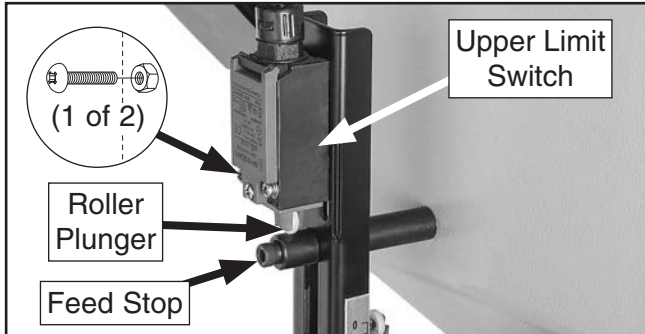

Figure 88. Upper limit switch and feed stop.
- Loosen Phillips head screws and hex nuts that secure upper limit switch (see **Figure 88**).
- Adjust upper limit switch so roller plunger is depressed against feed stop (see **Figure 88**), then tighten screws and hex nuts.